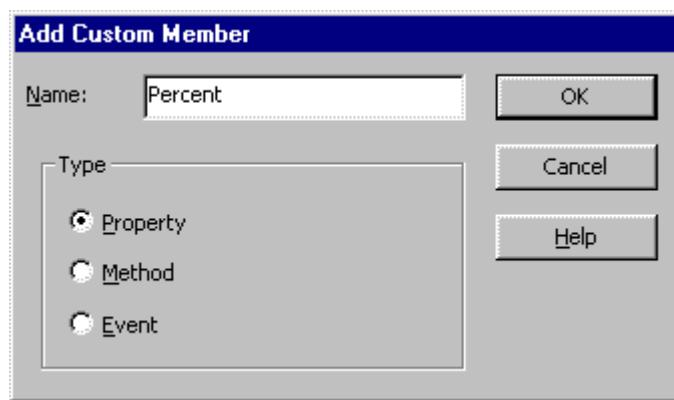

Figure 12. Add a new element with this dialog box.
4. **Add custom items:** On the next page, you can add custom properties, methods, or events. In this case, add a new property named **Percent..**. Make sure you indicate that it's a property, as shown in Figure 12.